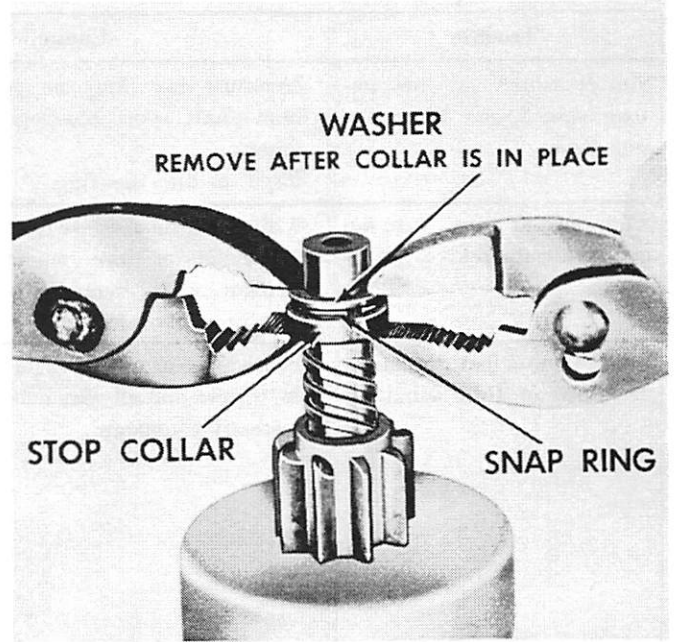

Figure 2. Installing Pinion Stop on Motor with Delco-Remy Inertia Type Drive
8. Position pinion stop collar next to snap ring and assemble a washer (standard automotive cranking motor thrust washer if available) next to other side of snap ring. (Figure 2) *Use 2 pairs of pliers at the same time (one pair on either side of shaft) to grip stop collar and washer.* Stop collar will rotate freely when properly assembled.